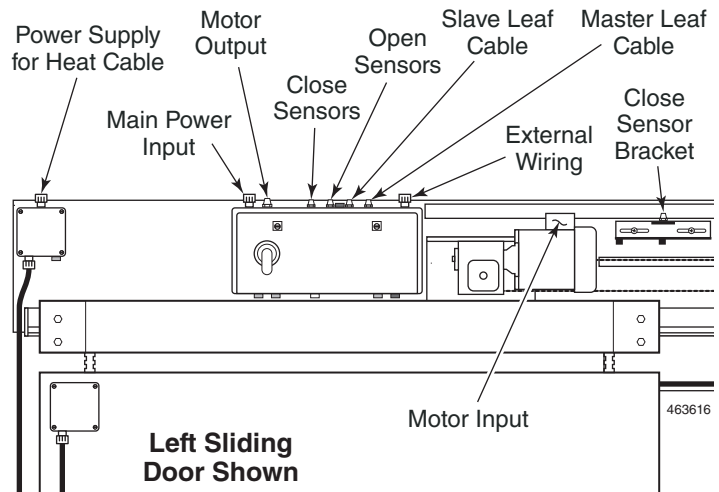

Figure 24
5. Install conduit and wire (according to code) from the pull switch through the external wiring port of the Control Panel. See Figures 24 and 25.